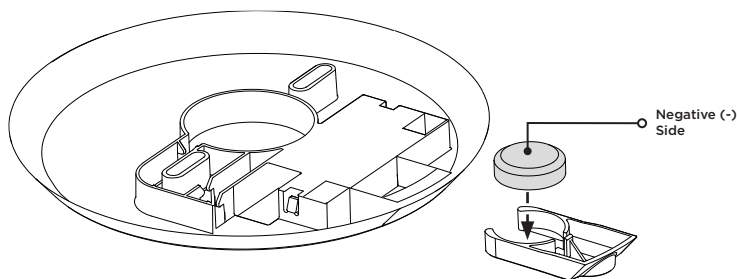

Figure 4: Inserting the Battery
2. Observing polarity, insert a 3.0V lithium CR2477 battery into the battery tray. The positive (+) side of the battery should face the same direction as the positive (+) mark on the battery tray. See Figure 4.